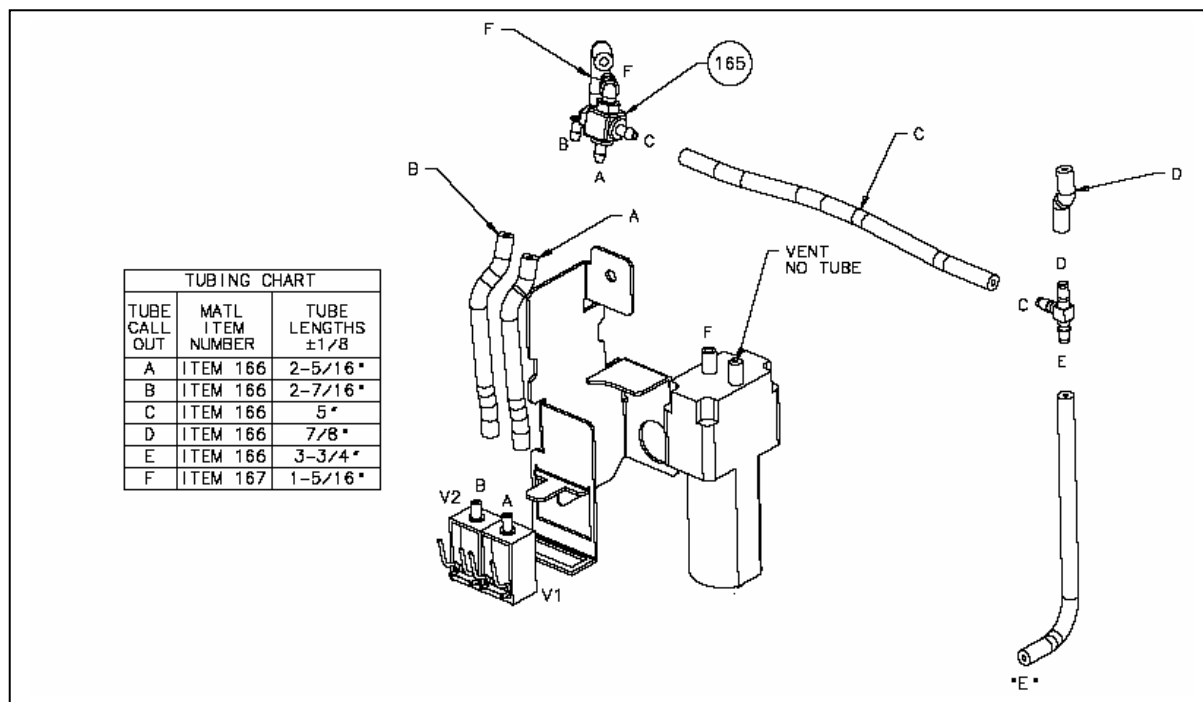

Figure 5-10. Tubing Harness Segments
- Refer to the table of tubing lengths shown in Figure 5-10.